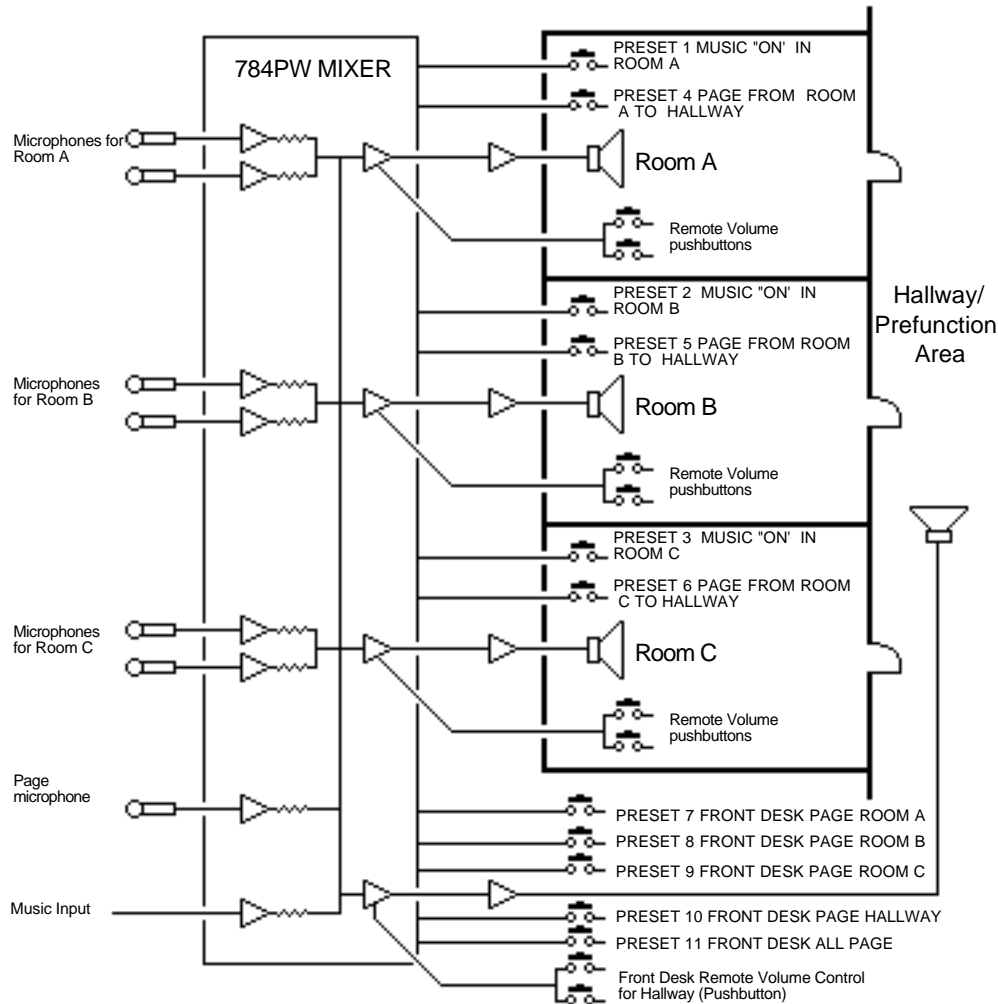
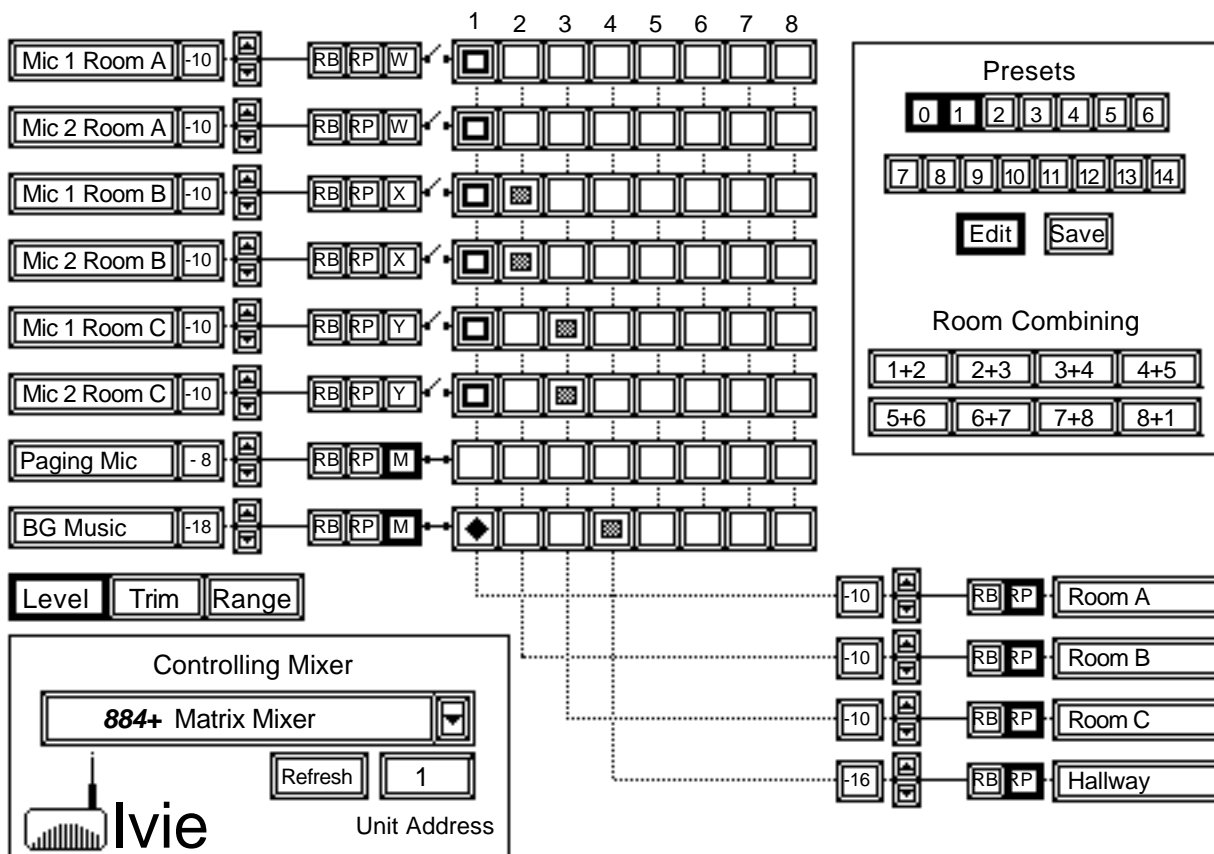
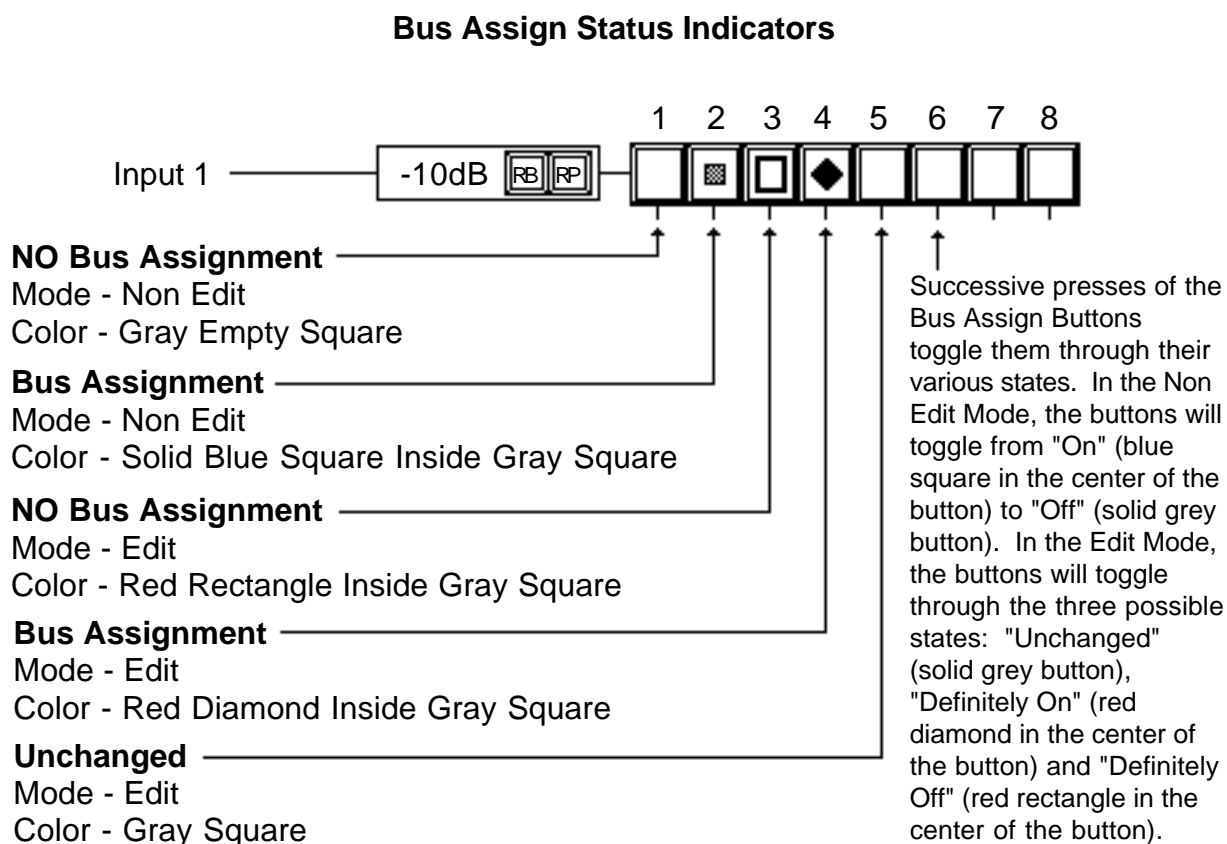

Figure 37
Figure 39
Figure 40
understood. Figure 37 below illustrates a three meeting room application with requirements for paging, room combining, background music and remote control:
The first question to ask when programming Preset 0 is, “What is the normal operating configuration of the system?” Once the answer to this question is known, programming becomes simple. For the system in Figure 37, the normal operating configuration is as follows: Each room has both of its microphones active. Background music is off. The rooms are not combined. The master level control for each room is active. In the hallway, background music is on and the level control for the hallway is active.
is easy. In the application shown in Figure 37, one of the system requirements is a switch in each room that turns on background music and kills the mics. This switch would activate a preset. The programming of that preset (Preset 1) for Room A is shown in Figure 39 below:
2. Press the desired preset button. Notice in Figure 39 that the Edit and Preset 1 Buttons have both been pressed. This indicates that Preset 1 has been selected for programming. *The Edit button must be pressed first.* Pressing the Preset 1 Button first would give an “Activate Preset 1” command instead of an edit or “Program Preset 1” command.
In the Edit mode, all programmed information shows up in red on the ANSW+ software control screen. This provides positive indication that the Edit mode has been selected. In programming Preset 0, a Bus Assign Button is either pressed or not pressed (blue square inside grey button, or no blue square, respectively), but in the Edit mode, three states are possible: 1) Definitely On, 2) Definitely Off, and 3) Unchanged. When modifying Preset 0 (which is exactly what Presets 1 - 14 do) three possibilities exist for a change to a Bus Assign Button: Let it stay the way it was in Preset 0 (Unchanged), or, make the bus assignment (Definitely On), regardless of whether it was made or not made in Preset 0, or definitely do not make the bus assignment (Definitely Off), regardless of whether it was made or not made in Preset 0. Figure 40 below demonstrates these indicators on the Bus Assign Buttons:
As shown in Figure 40, a “Definitely On” bus assignment shows up as a red diamond, while a “Definitely Off” bus assignment shows up as a red rectangle. Referring back to Figure 39, the microphone inputs for Room A have been turned off as part of Preset 1. *However, notice that the*
*microphone input to rooms B and C are also turned off.* Although these microphones do not normally feed Room A, they *would* feed A in a room combining situation. If Rooms A and B were combined, the Room A microphones would feed both rooms and the Room B microphones would feed both rooms. The precaution has been taken, in programming Preset 1, of turning off any microphone that may be feeding Room A when background music is turned on. Figure 39 illustrates this clearly.